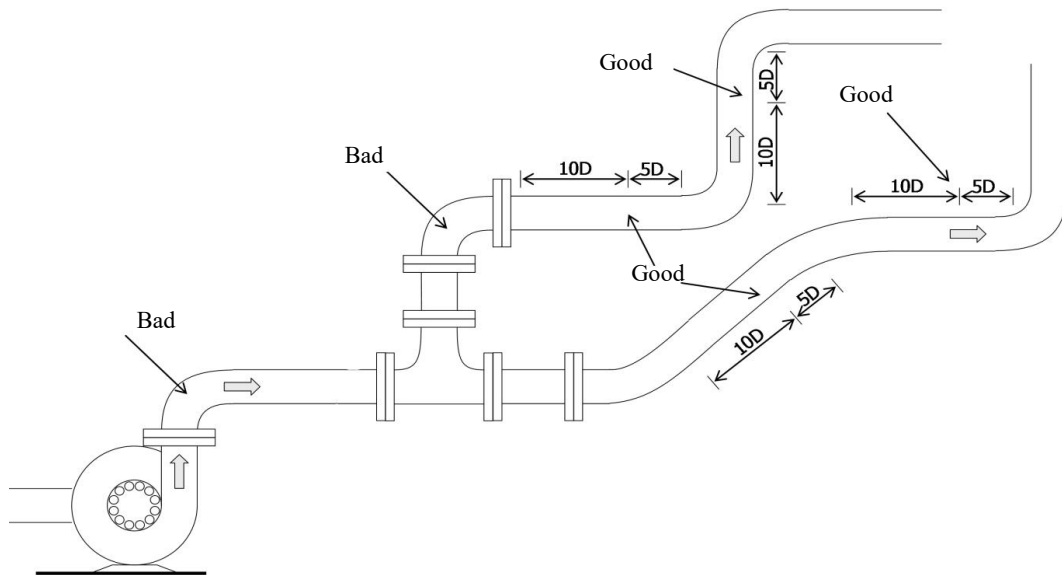

Figure 5
2. The measurement point shall be selected in the uniform and straight pipe section within 10 times diameter (10D) upstream and 3 times diameter (3D) downstream, without any valve, elbow, variable diameter and other devices that may interact the flow field. If there is a pump, T-way, regulating valve, throttle hole, gradual expansion pipe section or other device in front of the measurement point, the upstream straight pipe section is required to be 20 times diameter (20D). In the horizontal section, the sensor probe shall be generally installed at 9 and 3 o'clock (horizontal) positions of the pipe (Figure 5).